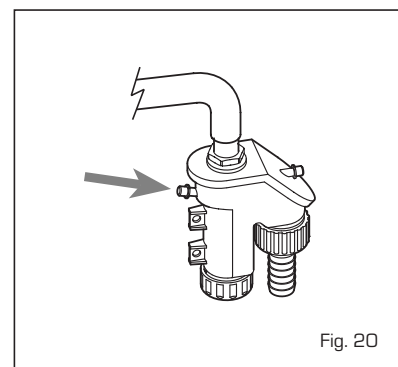

Fig. 20
#### 4.5 MAINTENANCE (fig. 20)
**If necessary, the drip plate can be filled using the tap provided (fig. 20).**